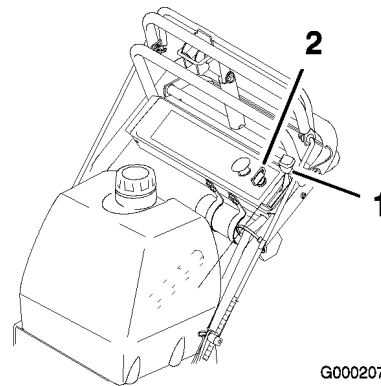

Figure 20
1. Move the throttle lever to the slow position (Figure 20).
3. Turn the ignition key to **off** (Figure 20).